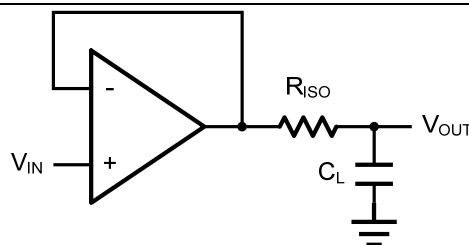
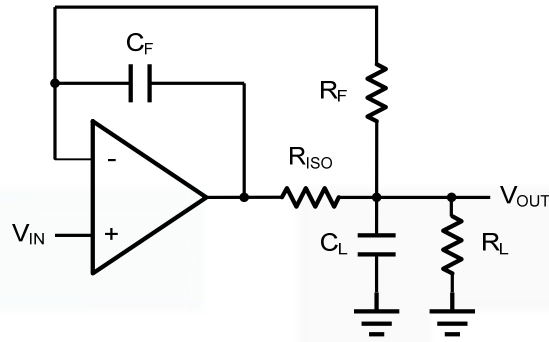

Figure 2. Indirectly Driving a Capacitive Load Using Isolation Resistor
Figure 3. Indirectly Driving a Capacitive Load with DC Accuracy
The GS852X family is optimized for bandwidth and speed, not for driving capacitive loads. Output capacitance will create a pole in the amplifier's feedback path, leading to excessive peaking and potential oscillation. If dealing with load capacitance is a requirement of the application, the two strategies to consider are (1) using a small resistor in series with the amplifier's output and the load capacitance and (2) reducing the bandwidth of the amplifier's feedback loop by increasing the overall noise gain. Figure 2. shows a unity gain follower using the series resistor strategy. The resistor isolates the output from the capacitance and, more importantly, creates a zero in the feedback path that compensates for the pole created by the output capacitance.
The circuit in Figure 3 is an improvement to the one in Figure 2. R_F provides the DC accuracy by feed-forward the V_{IN} to R_L . C_F and R_{ISO} serve to counteract the loss of phase margin by feeding the high frequency component of the output signal back to the amplifier's inverting input, thereby preserving the phase margin in the overall feedback loop. Capacitive drive can be increased by increasing the value of C_F . This in turn will slow down the pulse response.